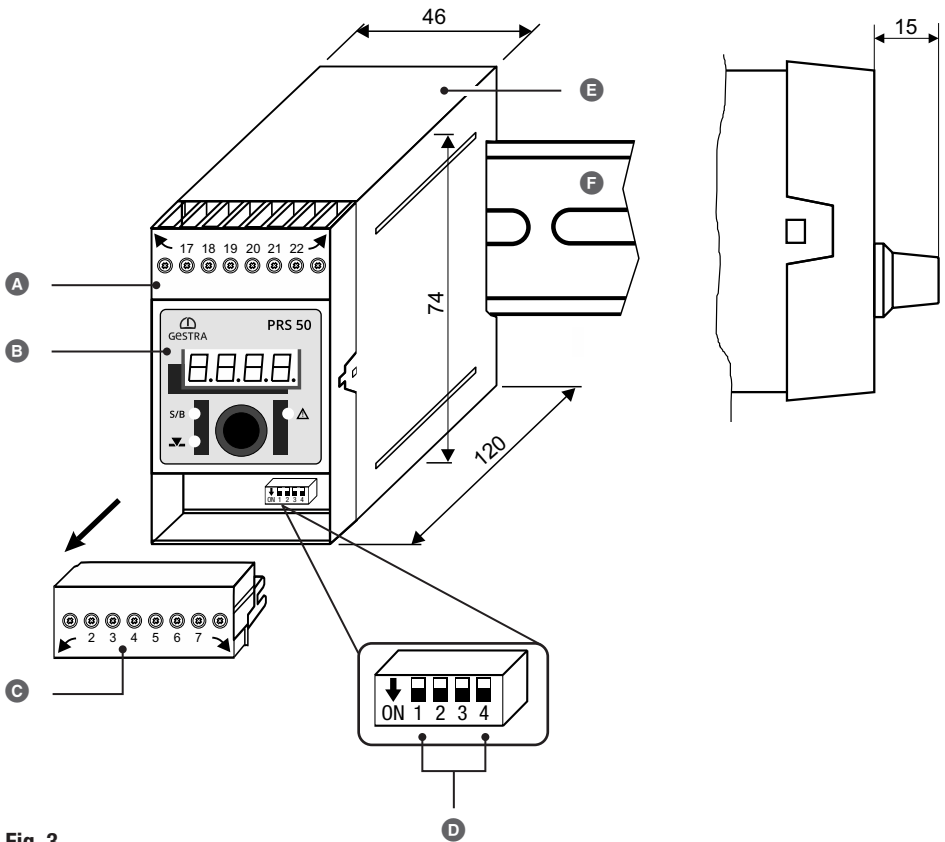

Fig. 3
You can change the standby/burner function of the PRS 50 blowdown timer using code switch **①** (see **Fig. 3**) at any time if necessary.
Code switch **Ⓢ** - sliding switch, white, see Fig. 3